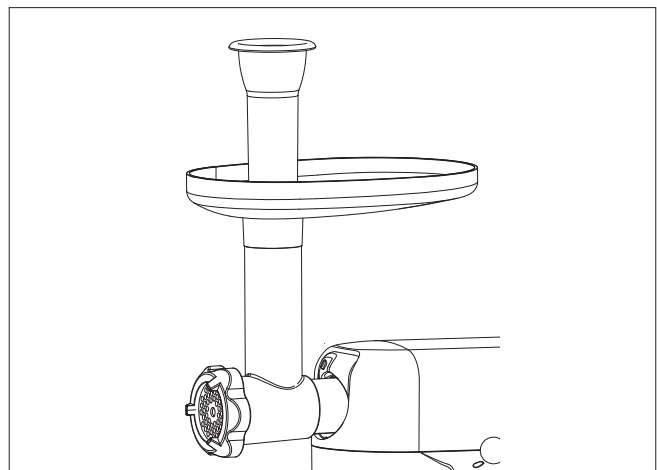

Fig. 18 – Mounted mincer with filling tray and pusher
3. Place the filling tray from above onto the worm housing feed chute (see Fig. 18).